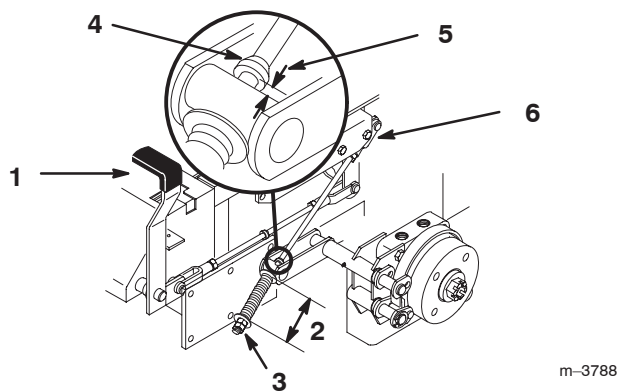

Figure 58
2. Measure the length of the spring. Measurement should be 2-3/4 inch (70 mm) between washers (Fig. 58).
3. If adjustment is necessary, loosen the jam nut below the spring and tighten the nut directly below the yoke (Fig. 58). Turn the nut until the correct measurement is obtained. Tighten the two nuts together and repeat on opposite side of unit.
- A. Measure the distance between the trunnion roller and the collar on brake rod. The measurement should be $3/16-1/4$ inch (5–7 mm) (Fig. 58).
6. If adjustment is necessary, loosen the jam nut directly below the yoke. Turn the bottom rod until the correct measurement is obtained (Fig. 58). Tighten jam nut at yoke